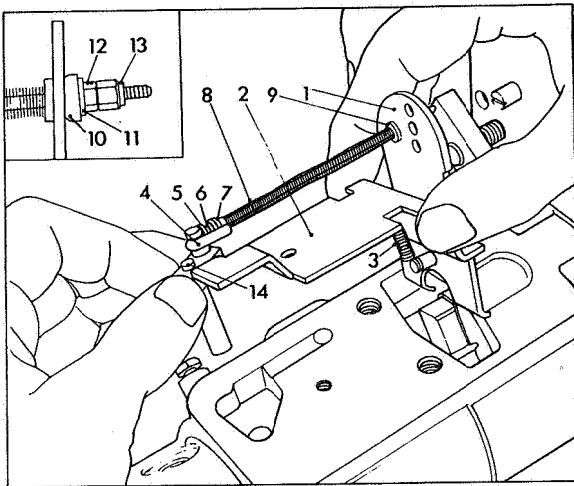

Fig 95 Assembling governor linkage
Assemble governor arm (1) Fig 95 to control bracket (2) and fit governor arm spring (3). Assemble spring linkage components onto the linkage hook (4) in the following order:— small spring retainer (5) large end first, short linkage spring (6), spring retainer (7) large end first, long linkage spring (8) and linkage spring washer (9). Pass the linkage hook stem through the correct hole in the governor arm and continue assembling linkage pivot ball (10), pivot ball washer (11), linkage nut (12) and locking nut (13). Attach metering valve (14) to hook linkage as illustrated.